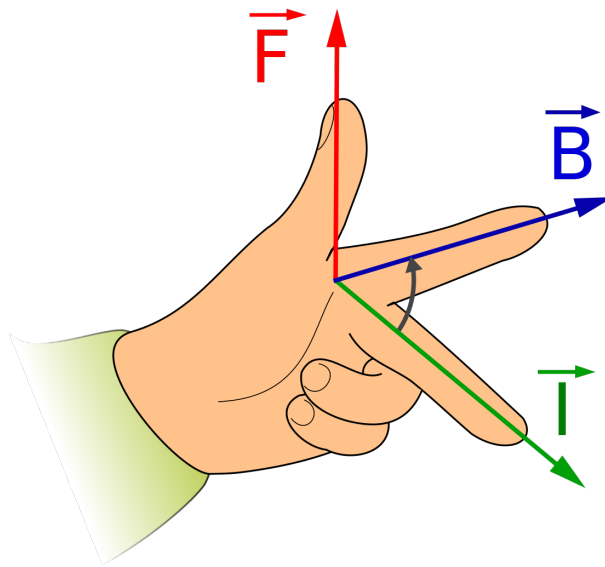

Figure 1.1: Fleming's left hand rule 1
In general, a current flowing through a wire induces an magnetic field that is perpendicular to the wire, while also experiencing a force that is perpendicular to both the wire and the magnet field. This relationship can be visualized using Fleming's left hand rule: Using your left thumb, index and middle fingers as mutually perpendicular axis, the direction of the resulting force (thumb), magnetic field (index finger) and direction of current flow (middle finger) can be obtained. Here, it is assumed that the direction of the mechanical force is literal, the direction of the magnetic field is from the north to the south pole, and the direction of the electric current is in line with that of conventional current (positive to negative). There are several mnemonics to memorize what quantity is related to which finger, one of which is the *FBI* rule that associates the SI units for force (F), magnetic flux density (B) and current (I) with the fingers starting from the thumb to the middle finger, as in Figure 1.1.